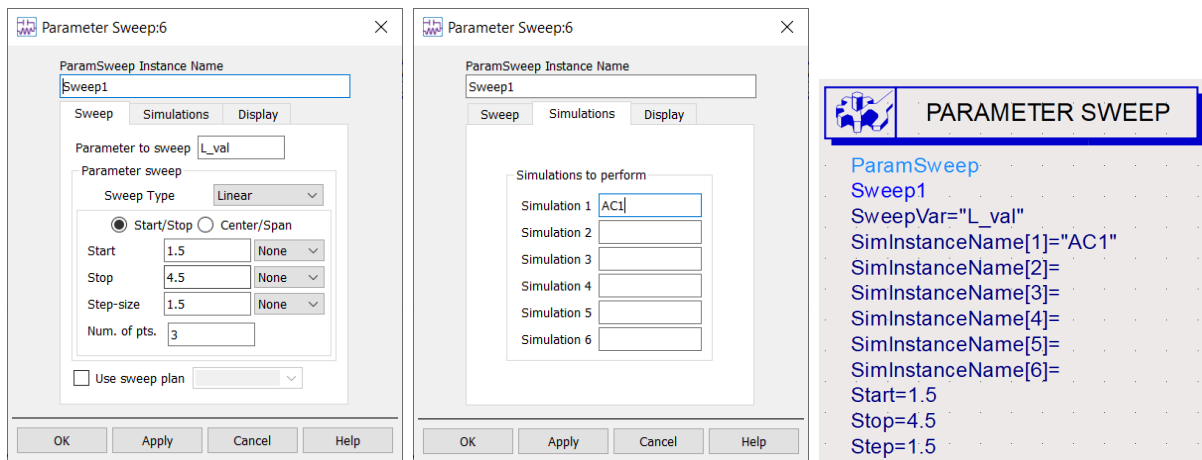

Figure 14. Setup of the Parameter Sweep
- In the Simulations tab, set **Simulation 1** to the name of the AC controller, which should be **AC1**. Click **OK**. This is shown in Figure 14. Notice that on the schematic, the Parameter Sweep block contains quotes around the variable to sweep and the simulation instance name. If the names were typed on the screen directly into the block, quotes would need to be added.